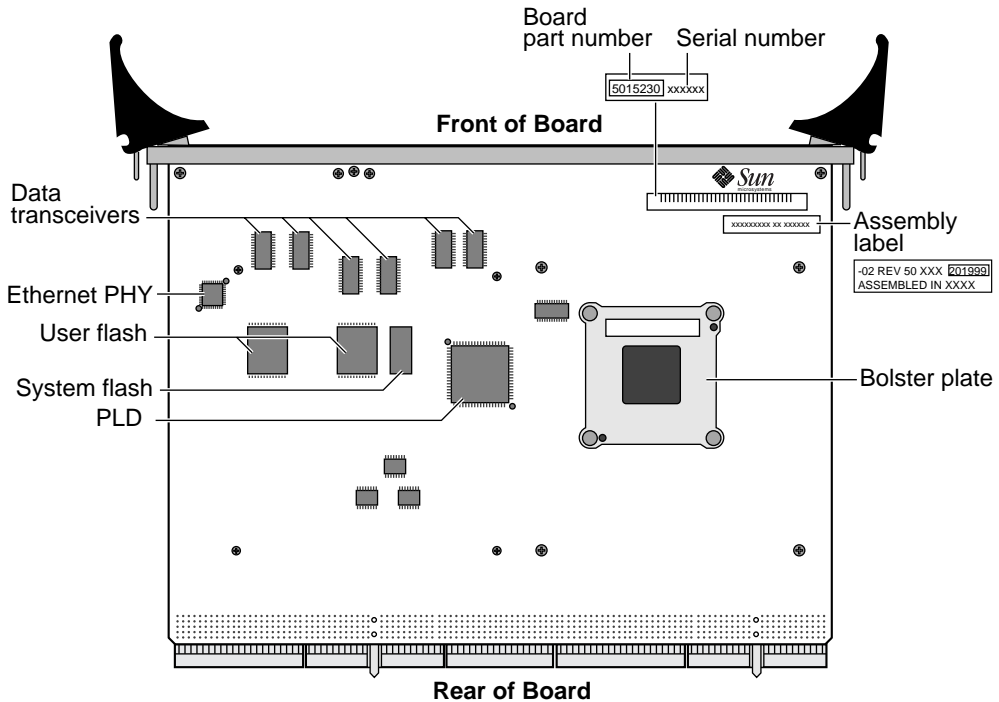

FIGURE 1-24 Back (Solder side) of CPU Card
- System flash memory (see FIGURE 1-24) - This 1 MB (8-bit) device contains boot-up and self-test code for OpenBoot PROM (OBP) and POST (power-on self-tests).